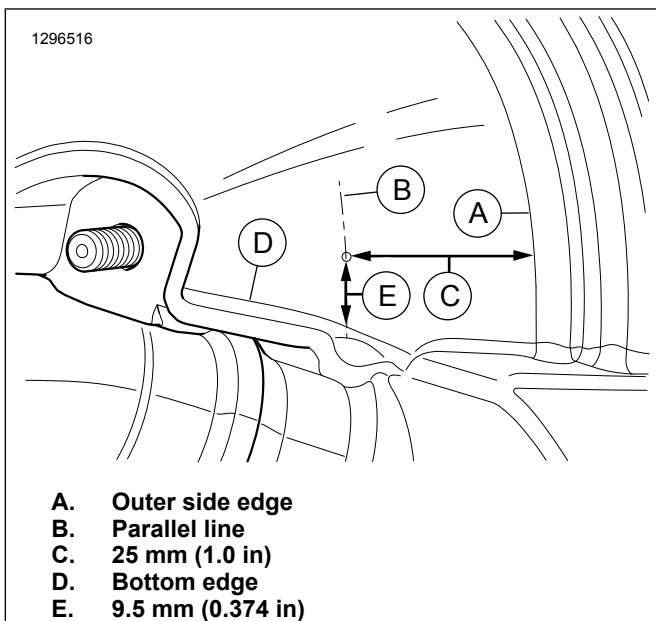

Figure 10. Drill Location
11. See Figure 10. Drill hole in back of lower fairing.
- a. From outer side edge (A), mark a parallel line (B) at the specified distance (C).